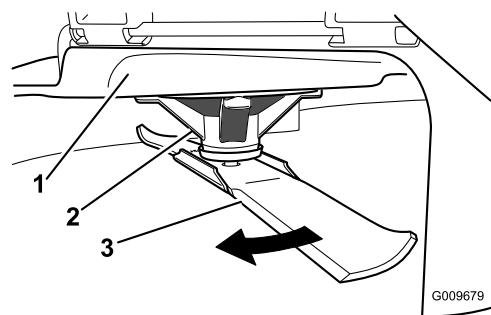

Figure 54
2. While wearing thickly-padded gloves, or other adequate hand protection, slowly rotate the blade to be measured into a position that allows effective measurement of the distance between the cutting edge and the level surface the machine is on (Figure 54).